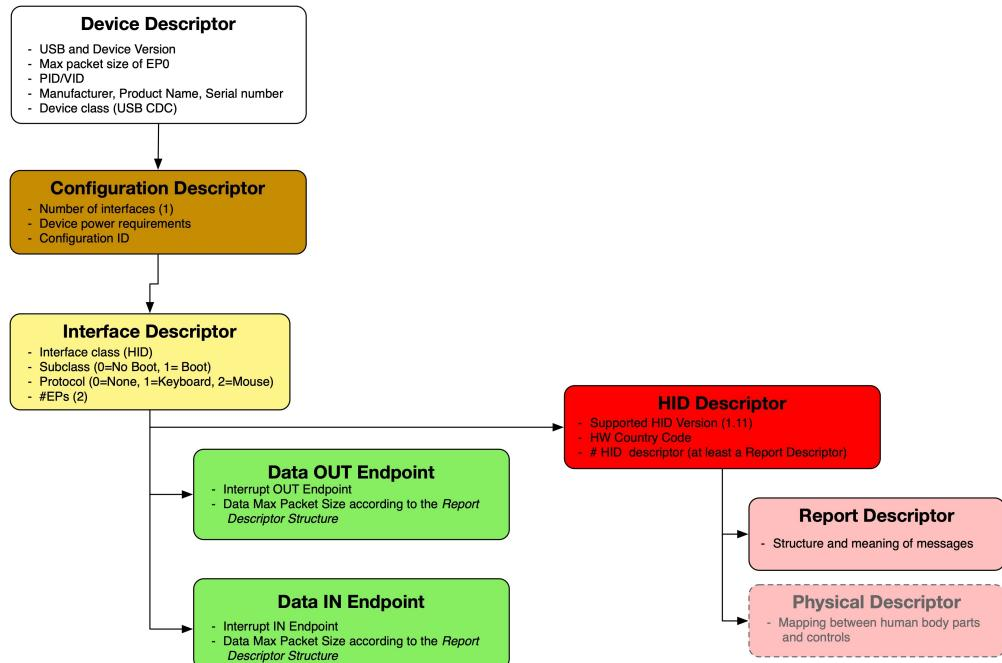

Figure 20: Descriptors hierarchy in a USB HID device
- **Interrupt Endpoints:** a HID device communicates with the HID class driver using either the *Control* (default) EP0 endpoint or two *Interrupt* endpoints (called Data IN/OUT in Figure 20). The *Control* endpoint is used for receiving and responding to requests for USB control and class data, for transmitting data when polled by the HID class driver (using the `GET_REPORT` request) and for receiving data from the host. The two *Interrupt* endpoints are used for